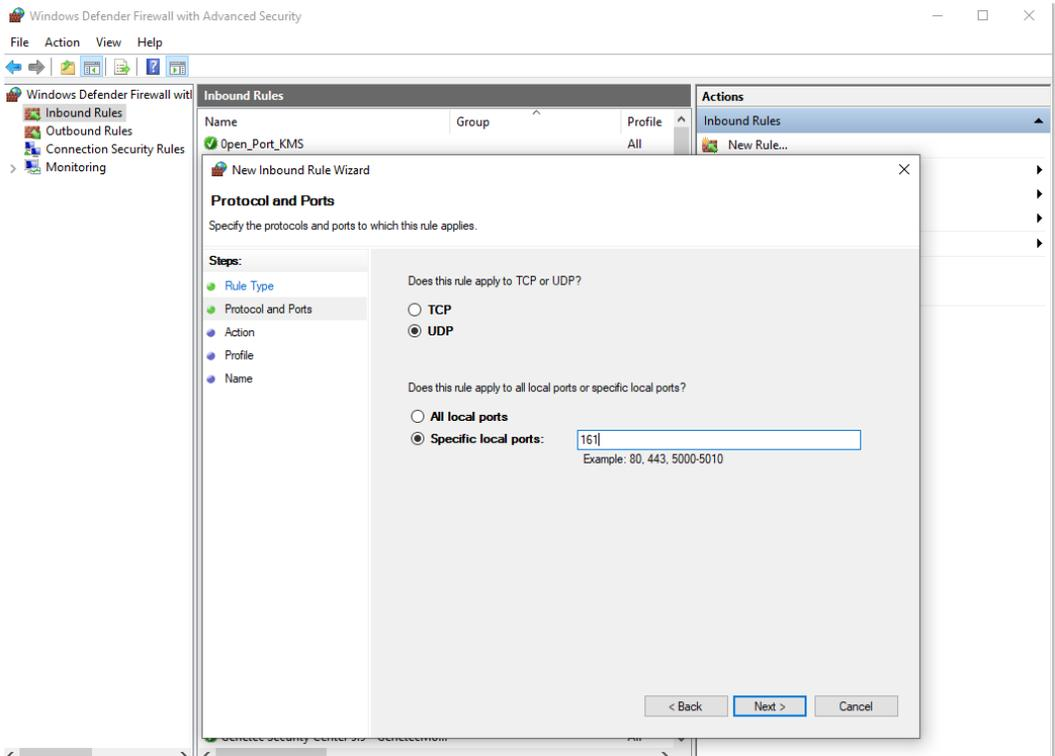

Figure 24
8. Ensure the firewall inbound and outbound rules are configured to allow access to the SNMP port entered above. (Figure 24).